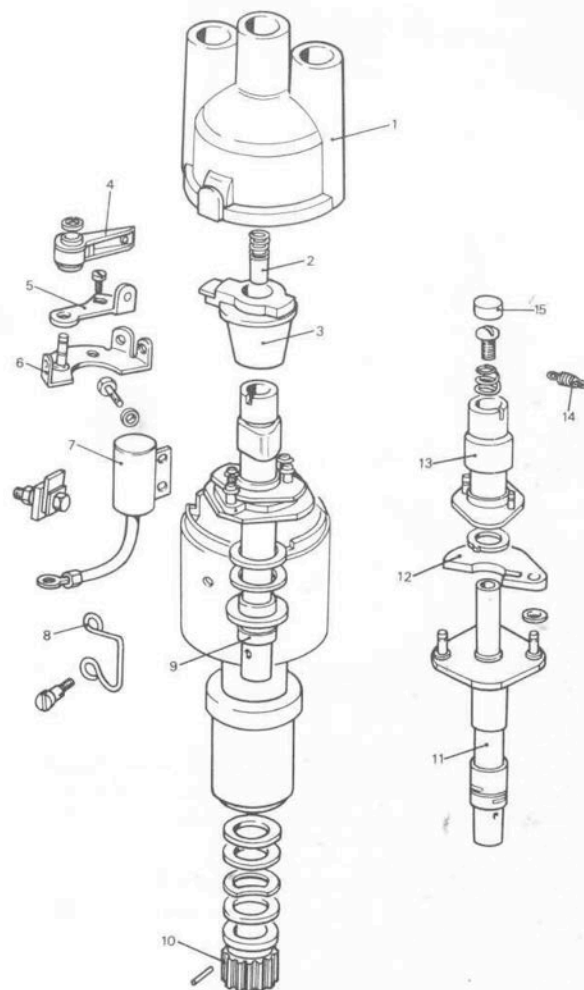

FIG 3:2 Components of the distributor
- 2 Disconnect the cable from the low-tension terminal on the side of the distributor body. Mark position of distributor on support. Release the distributor retaining nut and washer from the distributor retaining plate and carefully lift away the distributor. Now refer to FIG 3:2.